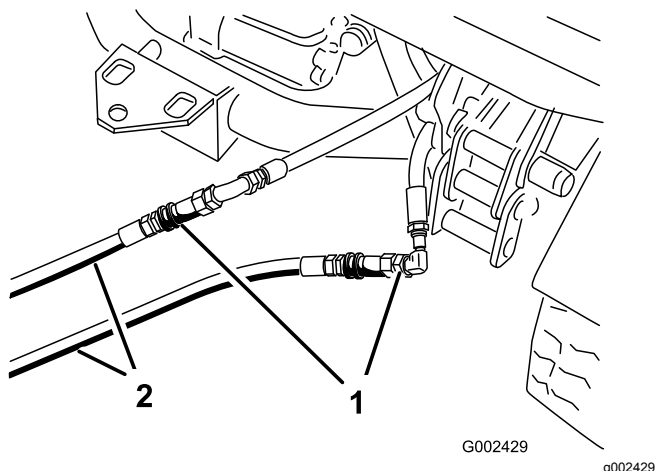

Figure 84
3. On the disabled machine, connect the 2 jumper hoses to the hoses that were disconnected (Figure 84).